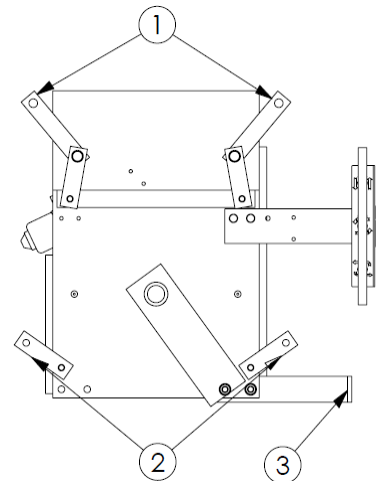

Figure 1.4
b.) *Universal Only:* The B & D seat mounting system consists of 4 bars at the front (#1 in Figure 1.4) of the base and 2 bars (#2 in Figure 1.4) at the rear. Remove the factory seat and slides from the factory pedestal. Install the factory seat and slides onto the B & D rear 2 mounting bars first; then install front of seat onto the B & D front 4 mounting bars.
c.) *Universal Only:* If the seat belt receptacle is integrated into the factory seat, you will not need to relocate the seat belt receptacle; simply remove the seat belt bracket (#3 in Figure 1.4) from the top plate & discard. If the seat belt receptacle is mounted on the factory pedestal, remove the receptacle and attach it to the seat belt bracket (#3 in Figure 1.4). Adjust the seat belt bracket so the seat belt receptacle just clears the side of the factory seat; this may require cutting and/or drilling additional holes in the bracket.